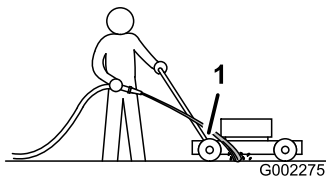

Figure 37
3. Hold the running garden hose at handle level and direct the water to flow on the ground just in front of the **right** rear tire (Figure 37).